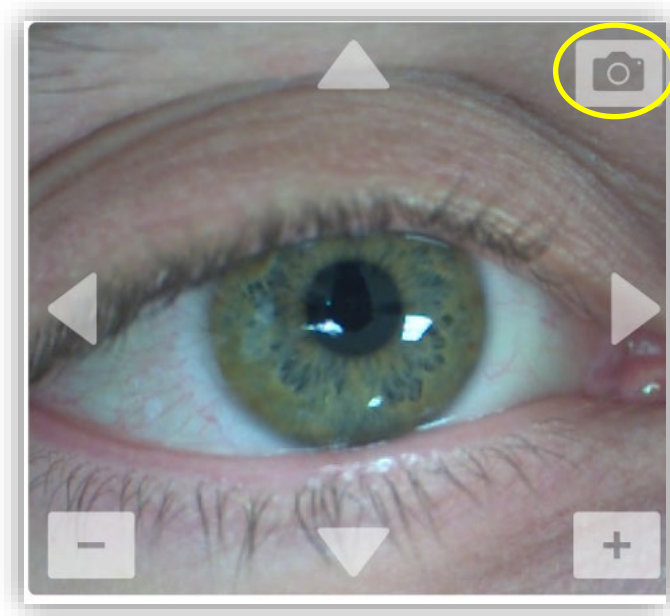

Figure 3-32. Capturing Images
- To capture an image, select the camera button in the top right hand corner of the eye image as shown in Figure 3-32.